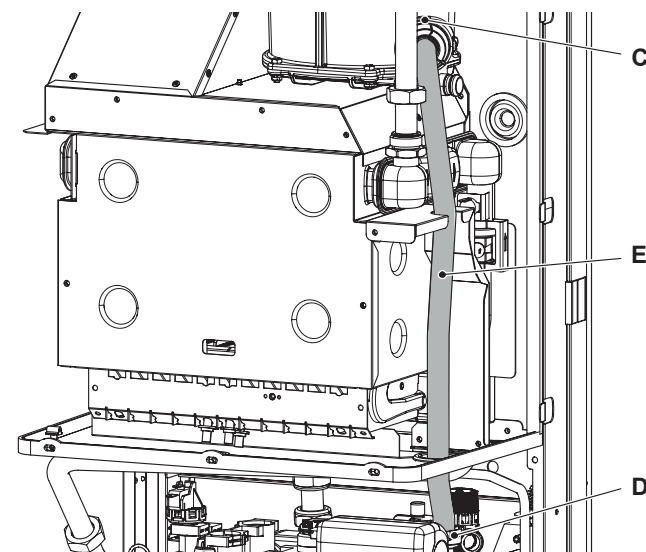

Figure 8.3
- 4 Remove the fixing spring D (Figure 8.3), and pull up and turn to the left the pipe E.